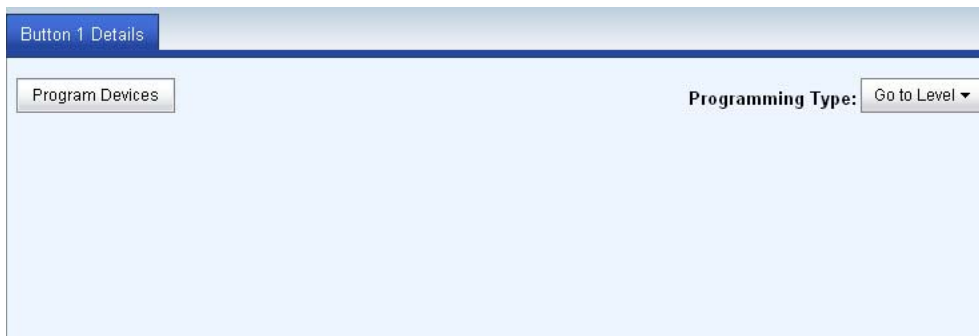
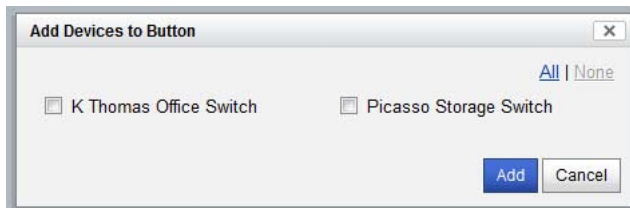

FIG. 40 Device Details
FIG. 42 Add Devices to Button window
Buttons programmed with the NXB-CCG-K will all have “single action” programming, with the exception of raise/lower buttons on keypads. This means that presses of either physical or virtual buttons will always send the programmed devices to their programmed level regardless of the state of the devices. The LEDs on buttons are “scene logic,” meaning that they are lit when all devices programmed to the associated button are on at the exact levels that are programmed. The *Program* page allows you to program devices to buttons. Clicking a button in the *Devices* tab of the *Program* page view will show a window on the right with details on that button (FIG. 40).
1. Click the **Program Devices** button in the *Button Details* pane (FIG. 40) to open the *Add Devices to Button* window (FIG. 42).